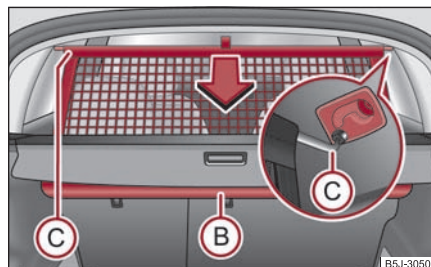

Fig. 88 Roll up net partition
- Pull the cross rod back slightly, first on the one side then on the other side and take the cross rod out of the mount **(C)** ⇒ **fig. 88.**